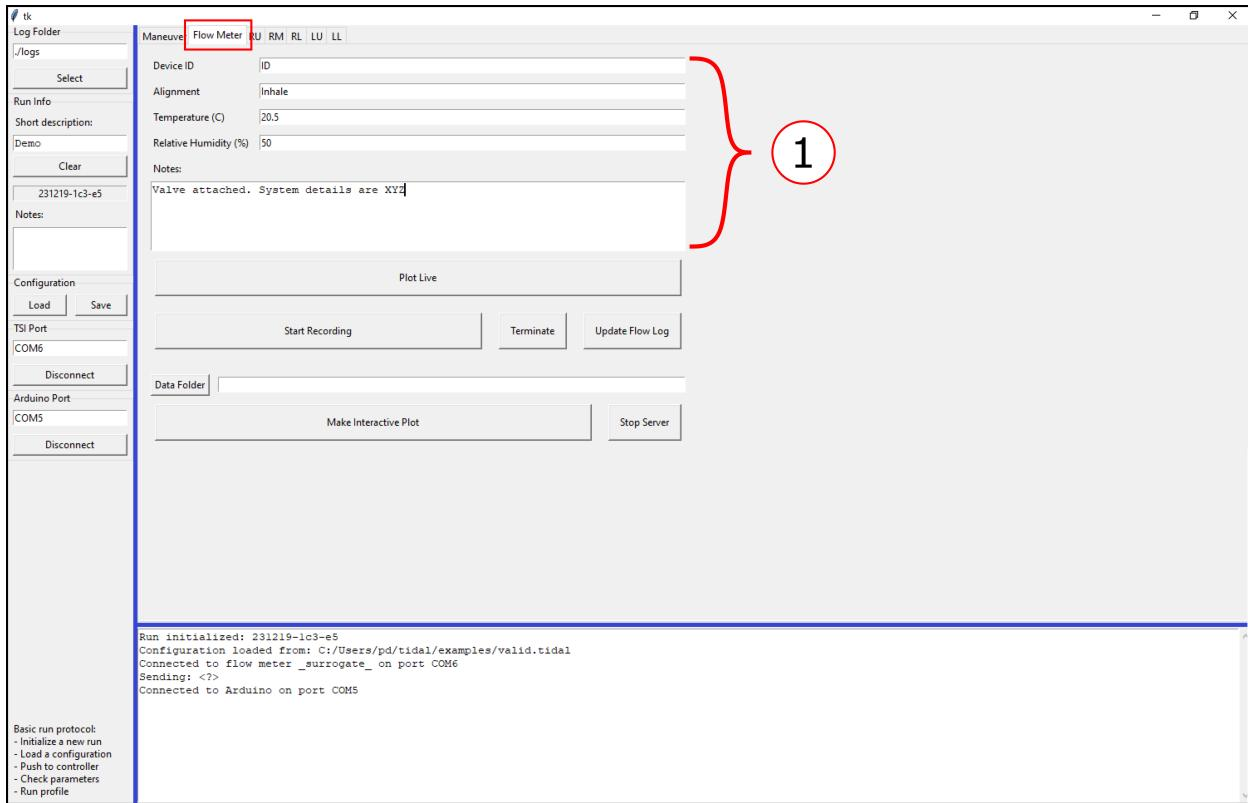

Figure 14: Set up the flow meter.
1. In the flow meter tab, enter information about the device, alignment or orientation, and ambient conditions. Enter any other notes about the run, such as notable configuration differences or conditions that may affect data processing. (**Figure 14**)